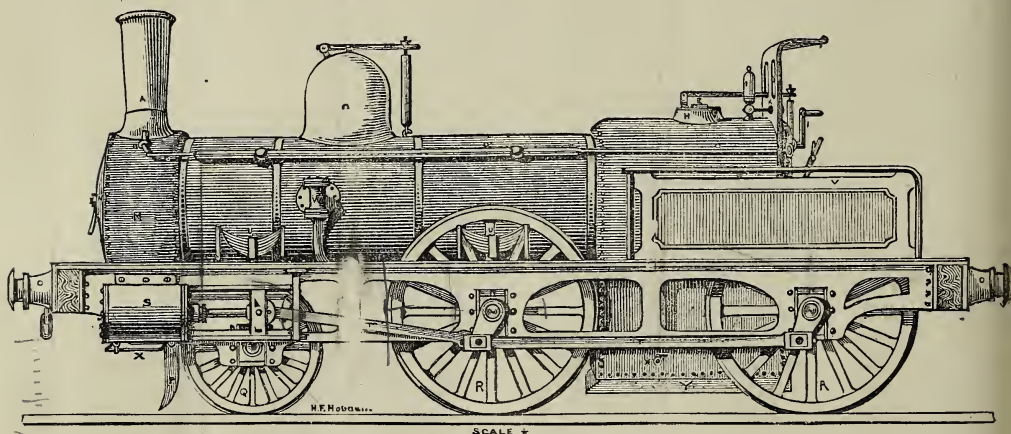
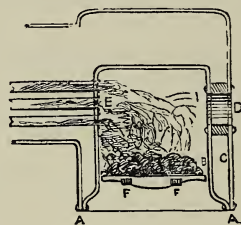
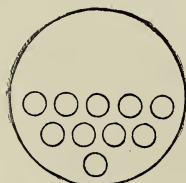
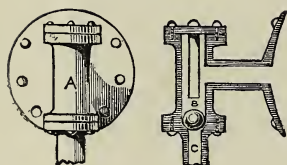

Fig. 20.
Fig. 32
Fig. 33.
Fig. 36.
Fig. 20 is a side view of the locomotive in its finished state, and we will begin to work at it in the same manner as in the former model, viz., with the framework; but as some of my readers may have a preference for some special type of engine other than the one drawn, they can easily build it from the following directions, and keeping the same proportion in size as in Fig. 20, which is drawn to $\frac{1}{8}$ -inch scale.
In Fig. 20 I have lettered the various parts, and it will be well to look over them carefully, as this engine differs materially from the previous model in its arrangement, being constructed exactly similar to a real engine.
also be prepared an inch deep, and the ends hammered square at right angles, and then riveted to the bed-plate and side-frames, as shown by the rivets in Fig. 20.
The spring should be made of thick steel wire; the buffers can then be screwed on as just mentioned. The wheel-guard, or line-cleaver P (Fig. 20), can next be cut out to shape and bolted on to frame, and should just clear the line by a quarter of an inch.
We will now proceed with the axle-bearings and springs U (Fig. 20). The wheels can be finished up in the same manner as previously described, so I need not say anything further about them.
The spring is best made from clock-spring, and cut to shape as at D. The top-piece requires to be made hot with your blowpipe, and then the ends turned over to hold the pin B. Each piece of spring must be slightly shorter than the upper, and the ends nicely graduated off, and when ready held together by the brass band F, which has a small hole drilled at F to hold the end of pin by which the pressure is directed on to the axle-boxes, as shown in Fig. 20. A hole is also to be drilled in bed-plate over centre of each axle-box to allow pin to pass through, and also a smaller one an inch and a half on each side for the support A (Fig. 26) to screw into. They can all be fitted into position.
plate, *D* the balance-weight, and *F* the rod leading to quadrant and lever on foot-plate. The cranks are put on outside the wheels and fastened by keys, as in Fig. 20.
as shown in section Fig. 32 at AA. A hole is next to be cut out in the centre of rear plate, and also the rear part of inner casing which comes opposite to it, and one three-quarter inches by two and a half, forming an elliptical opening for the furnace door.
You next require some hard-drawn brass tubing three-quarters of an inch diameter, and must cut the pieces slightly over seventeen inches long, then drill ten holes in the inner plate as at *κ* (Fig. 32), and in the position and arrangement shown in Fig. 33. These tubes should have a wire ring brazed on about a quarter of an inch from either end, and then being placed in their respective holes in tube-plate, the projecting portion is to be beaded back with a flange, or you can fit them in as described previously (Fig. 16) by each being double-screwed and nutted. These tubes allow the smoke and flame to pass through from the furnace to the smoke-box (*μ* Fig. 20), and so away up the chimney, and by the large surface they expose to the fire, help to raise steam very quickly.
We can now make the back pressure-valve (Fig. 36). A is a front view, with plate by which it is bolted on to boiler, as at W (Fig. 20).
The boiler should now have a coating of flannel, cut to shape and wrapped round the body part, and a casing of sheet tin put over it and secured by brass bands, and small nuts underneath, as shown in Fig. 20.
so as to be out of the way when you require to clean the tubes. A small brass pipe (C) must also be passed through chimney, and bent upwards and fitted with tap, which should take steam from top of boiler, and be used as shown at D and F (Fig. 20). This helps to raise steam very quickly.